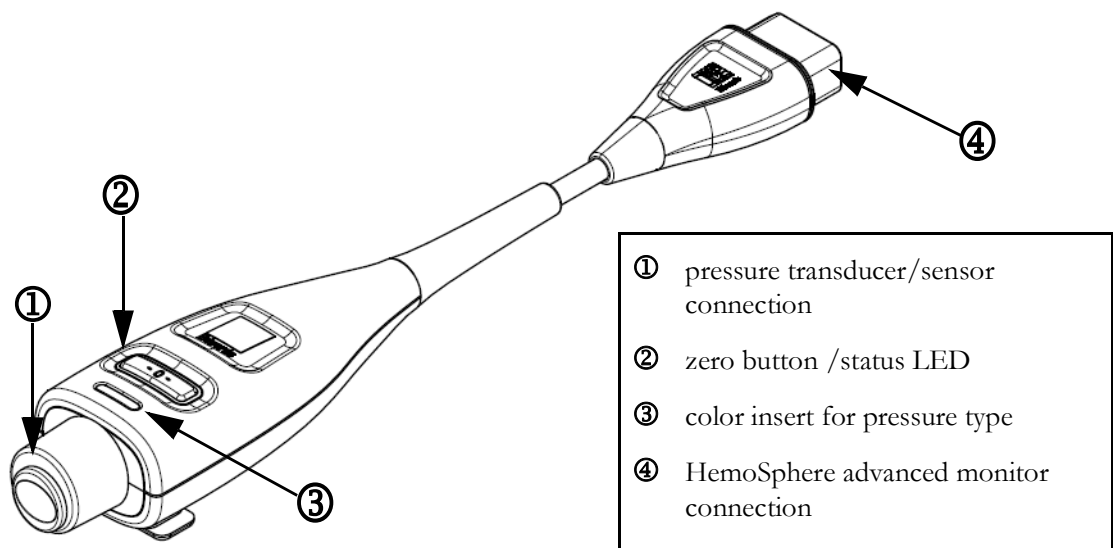

Figure 10-1 HemoSphere pressure cable
The HemoSphere pressure cable is a reusable device that connects with the HemoSphere monitor on one end ④ and any approved single Edwards disposable pressure transducer (DPT) or sensor on the other end ①. See figure 10-1 on page 164. The HemoSphere pressure cable acquires and processes a single pressure signal from a compatible Edwards DPT, such as the TruWave DPT, or a FloTrac sensor. A FloTrac or Acumen IQ sensor connects to an existing arterial catheter to provide minimally invasive hemodynamic parameters. A TruWave transducer can connect to any compatible pressure monitoring catheter to provide location based intravascular pressure. Refer to the directions for use provided with each catheter for specific instructions on catheter placement and use, and for relevant warnings, cautions and notes. The HemoSphere pressure cable can be monitored through two technology monitoring modes based on the paired sensor/transducer: **FloTrac** or **Acumen IQ** sensor monitoring mode or **Swan-Ganz** catheter monitoring mode. The monitoring mode appears on the top of the navigation bar (see figure 5-2 on page 83). The appearance and connection points for the HemoSphere pressure cable are shown in figure 10-1.
Pressure Type Color Insert. If desired, the appropriate color insert can be used on the pressure cable to indicate the monitored pressure type. See ③ in figure 10-1 below. The colors are as follows:
- Red for arterial pressure (AP)
- Green for cardiac output (CO)
- 7 Use a straight in or out motion to connect the green connector of the primed FloTrac sensor. The pressure cable LED that surrounds the zero button (see ② in figure 10-1) will flash green indicating that the pressure sensor is detected. A yellow light indicates a fault condition. If this occurs refer to the status bar for specific fault condition details.
Press the physical zero button  directly on the pressure cable and hold for three seconds (see figure 10-1).